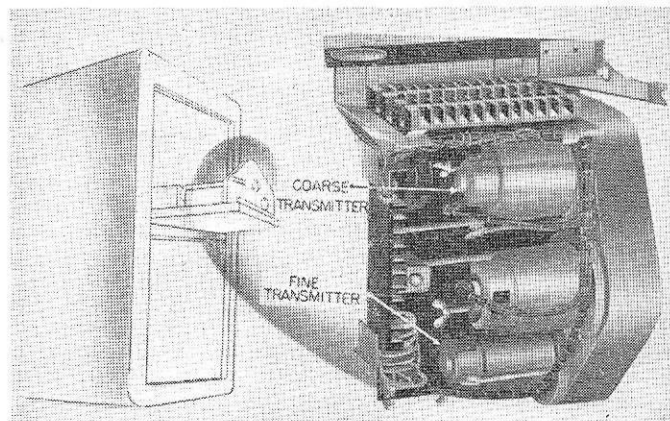

FIGURE 49.—Range unit shelf of ranging equipment.
(2) Remove the front cover from the **RANGING EQUIPMENT** and slide the range unit shelf (fig. 49) out to its stop.
(3) Loosen the clamping rings on the coarse synchronous transmitters (fig. 49) and rotate the housing until a reading of exactly 10,000 yards is indicated on the coarse dial of the director.
(4) Loosen the coarse dial on the RANGE CONTROL UNIT and set the dial to read 10,000 yards.